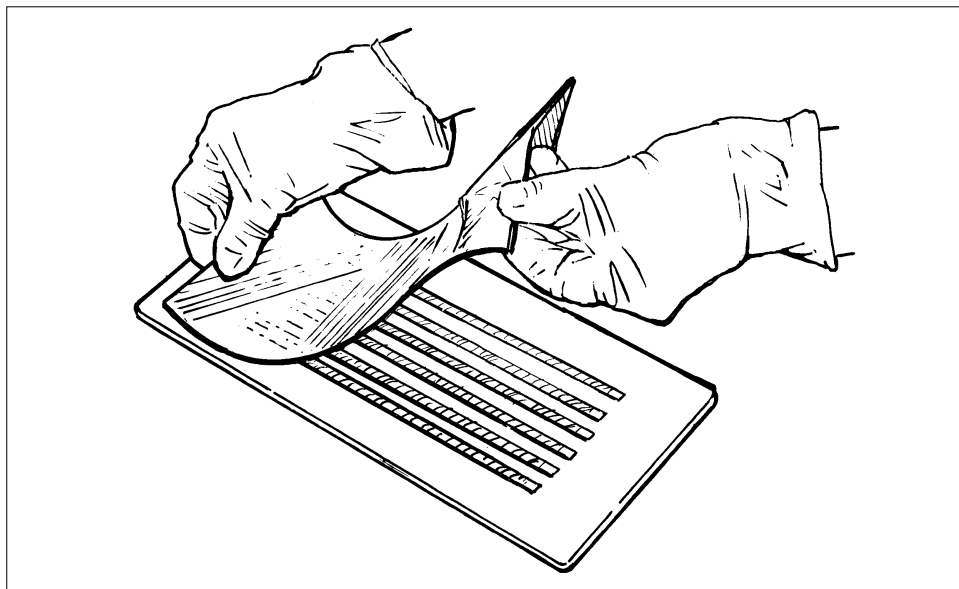

Fig. 12.
- Place a tissue paper or a humid filter paper on top of the strips, blot very gently and then remove the tissue paper (Fig. 12).